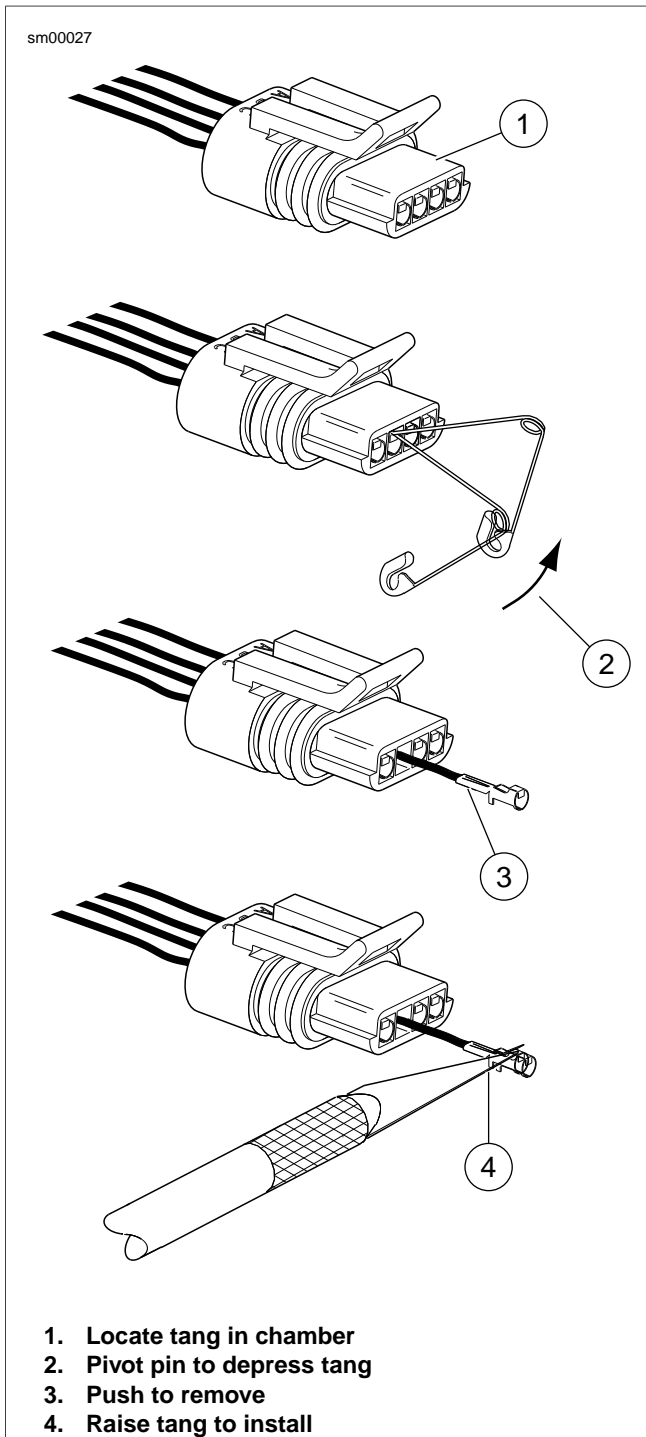
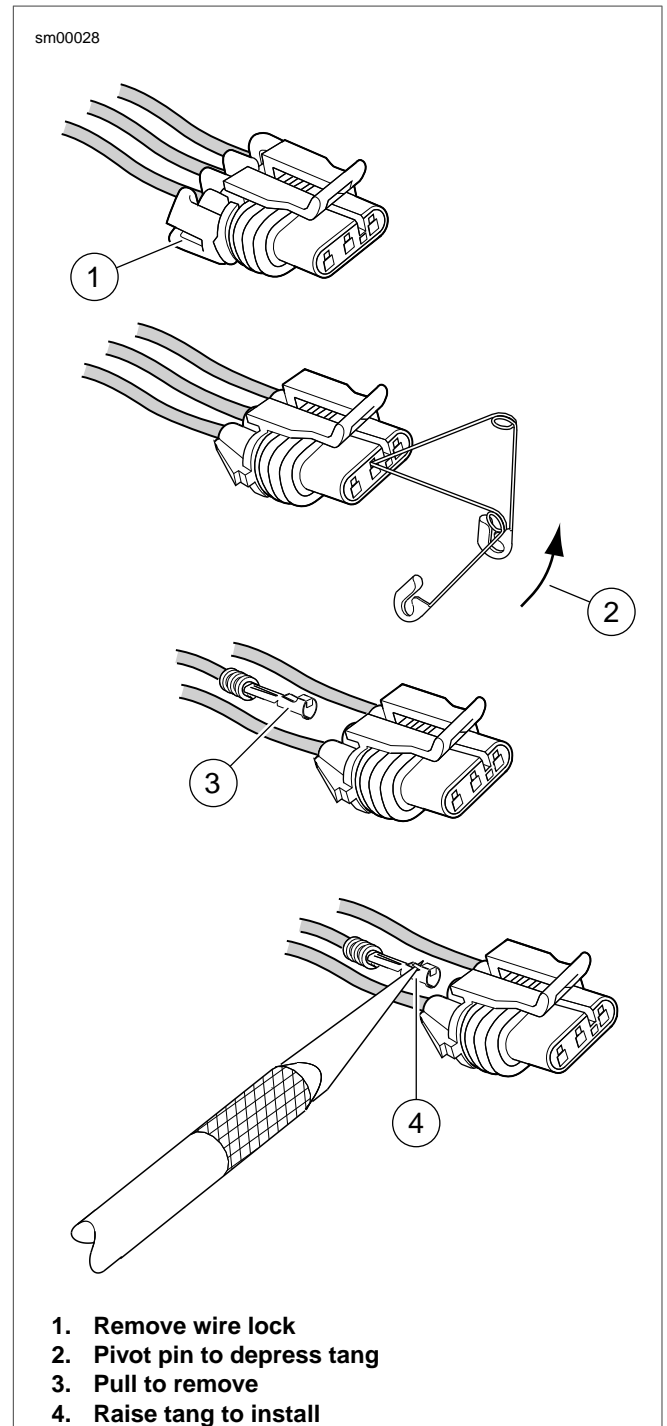

Figure A-23. 150 Metri-Pack Connector: Pull-to-Seat
Figure A-24. 150 Metri-Pack Connector: Push-to-Seat
1. See Figure A-23 for pull-to-seat connector or Figure A-24 for push to seat connector. Remove wire lock (1) from wire end of socket housing on push-to-seat type connectors.
1. See Figure A-23 for pull-to-seat connector or Figure A-24 for push to seat connector. Using a thin flat blade, like that on a hobby knife, carefully bend the tang outward away from the terminal body.
For push-to-seat: See Figure A-24. Seat wires in separate channels of wire lock and then push channels **inside** chambers at wire end of socket housing. Fully installed, slot on each side of wire lock engages ear on socket housing.